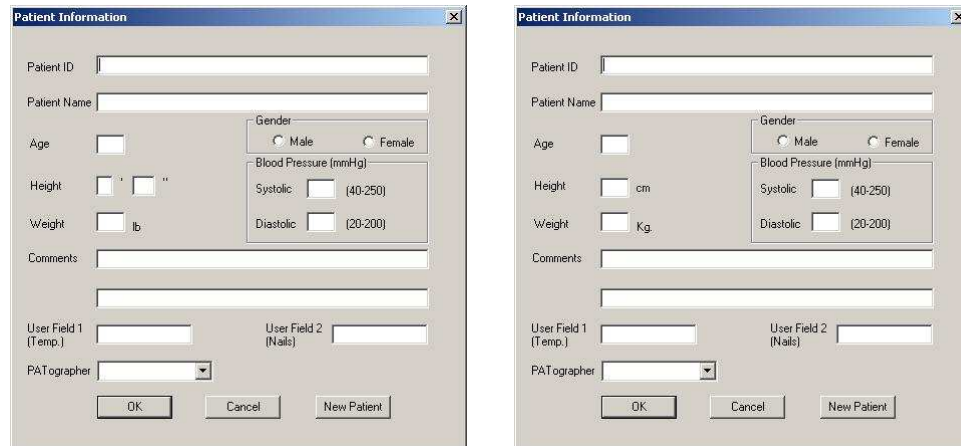

Figure 22 - Patient information dialog box (metric and US units)
- 1 Click the  icon on the tool bar or activate from the Test Analysis menu the Patient Information dialog box. (See Figure 22)